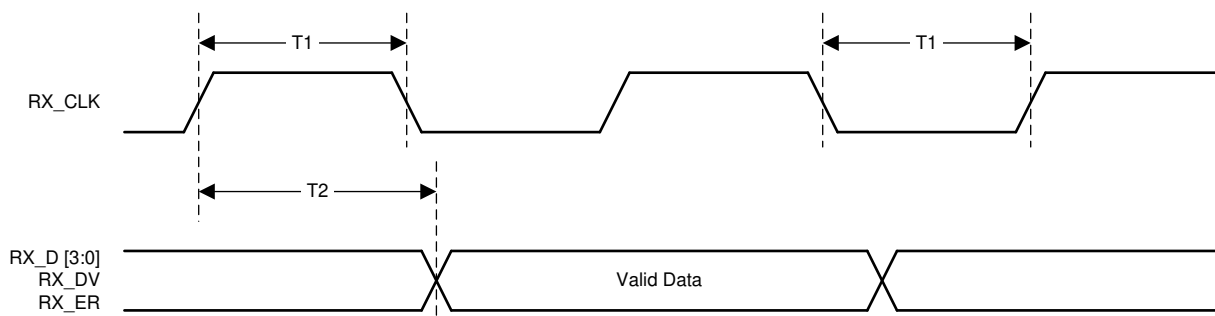

Figure 7-8. 10-Mbps Receive Timing
- (1) Ensured by production test, characterization or design.
- (2) See Figure 7-8.